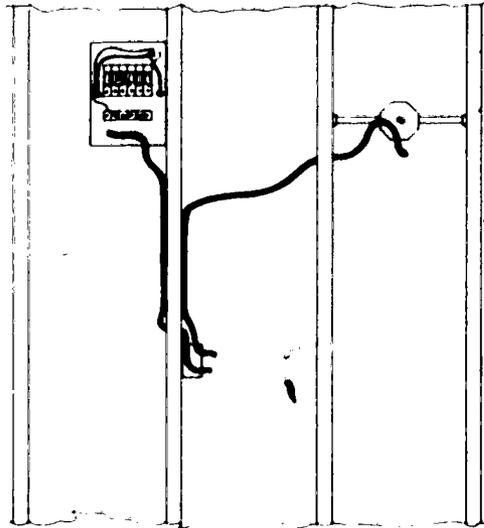

FIGURE 13
2. Run cable between boxes (Figure 13)